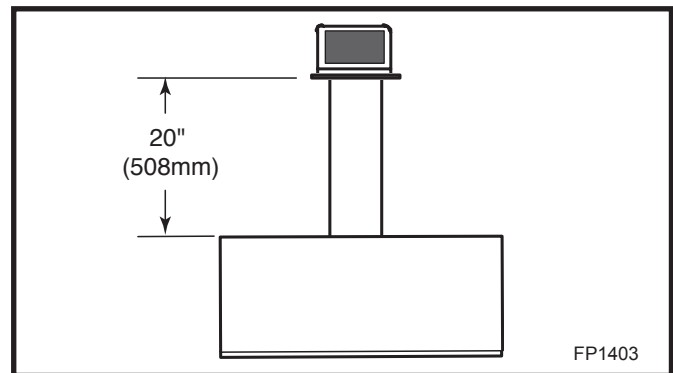

Fig. 13 Rear vent application.
- The maximum horizontal distance between the rear of the appliance and the outside face of the rear wall is 20" (508 mm). (Fig. 13)